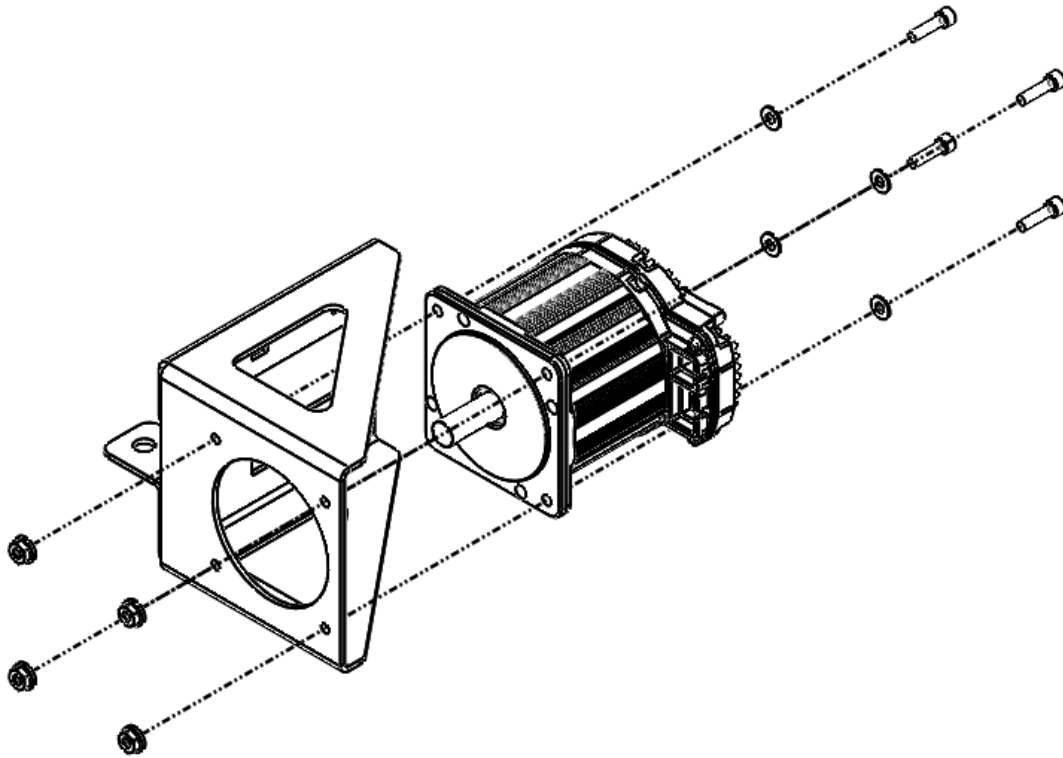

Figure 45: RLVDC Motor Mount
9. Tighten the four bolts on the motor mount as shown in Figure 45. Torque the bolts to 31ft-lbs.
4. Remove the Teknic motor from the mounting bracket by loosening four bolts as shown in Figure 45.
5. Install the replacement motor to the mounting bracket using the four bolts in Figure 45. Torque the bolts to 81in-lbs